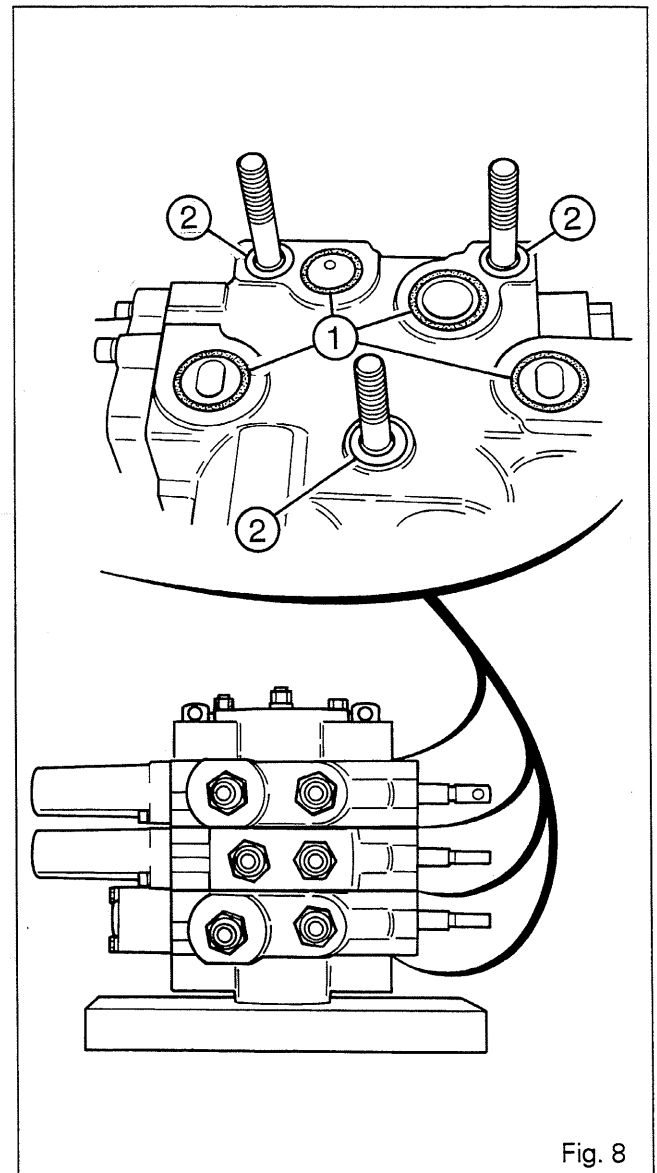

Fig. 8
### Fitting instructions (Fig. 8 and 9)
To ensure correct fitting of the O-rings (1) and the shims (2), each spool valve must be fitted vertically, as shown in Fig. 8.
**Important :** The shims (2) allow the tightening load to be evenly distributed on the three studs and not on the valve contact surfaces. To avoid seizing of the spools, it is mandatory to comply with requirements on the fitting of shims and the tightening torque applied on the nuts (3).